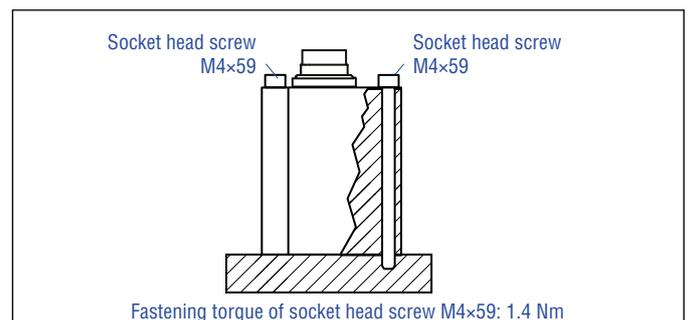

Fig. 21: Mounting with socket head screws M4×59
3. Mount the sensor electronics housing using the three M4×59 hexagon socket screws made of non-magnetic material. Tightening torque: 1.4 Nm (Fig. 21). Secure the screws before installation, e.g. with Loctite 243. Remove the three knurled nuts beforehand.
- Mount the sensor electronics housing to the sensor tube or HFP profile using three M4×59 hexagon socket screws made of non-magnetic material: Tightening torque: 1.4 Nm (Fig. 21). Secure the screws before installation, e.g. with Loctite 243. Remove the three knurled nuts beforehand.
- Mount the sensor via flange using the three M4×59 hexagon socket screws made of non-magnetic material. Tightening torque: 1.4 Nm (Fig. 21). Remove the three knurled nuts beforehand.